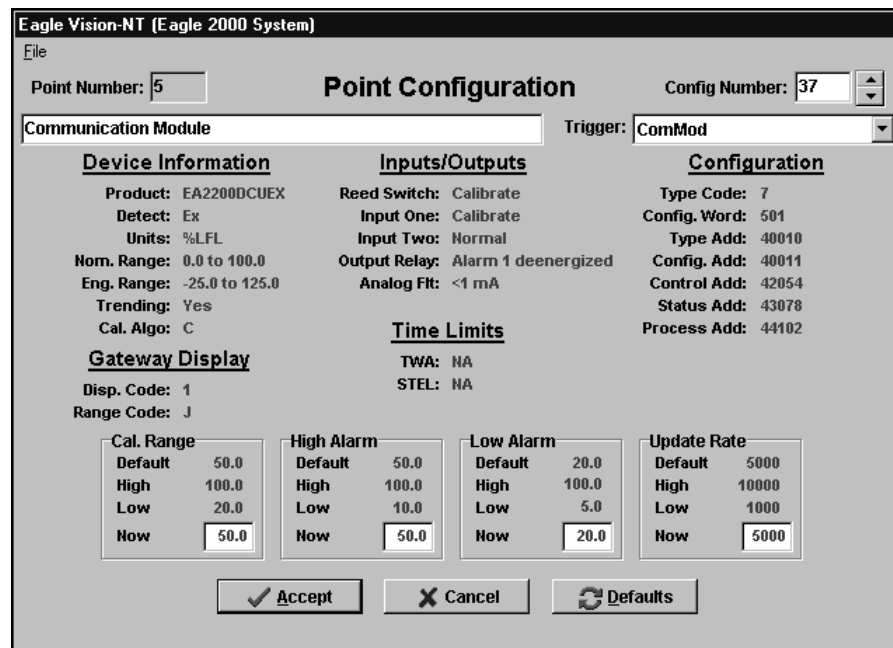

FIGURE VI-2
3. Click on the Communication Module button, then click on OK. The Communication Module Point Configuration screen will be displayed. See Figure VI-2.